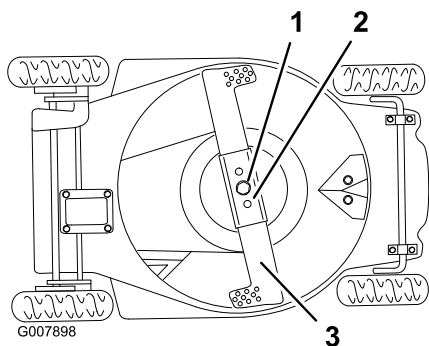

Figure 30
2. Tip the lawn mower onto its **left** side (Figure 30).
2. Remove the blade bolt, the lock washer, the blade, and the blade stiffener (Figure 30).